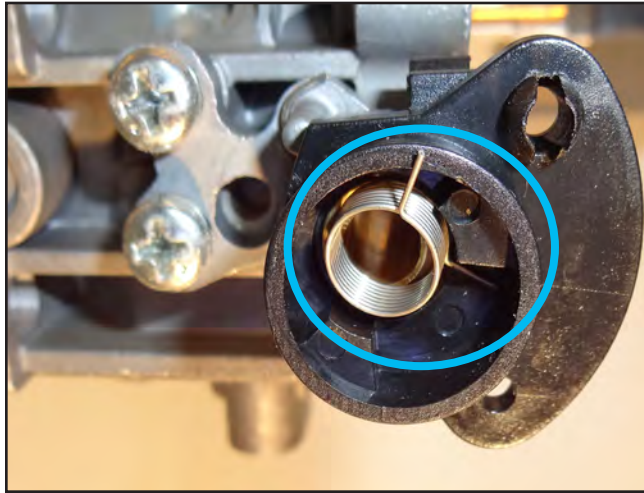

Figure 25
1. Insert the spring with the inner end in the short slot of the override assembly, place the other end resting on the outer edge (Figure 25).